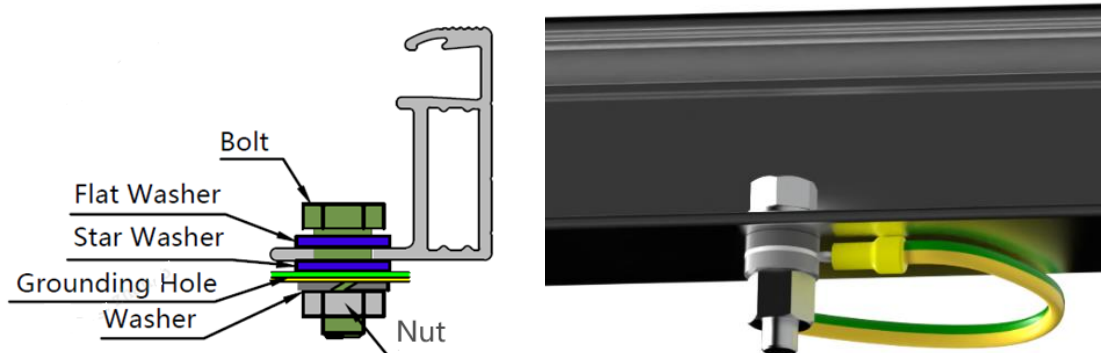

Figure 9. Grounding hole with bolts
- There are grounding holes with a diameter of 4mm on the long side of the back frame of the module, by the edge part. The grounding hole on the frame is marked with typical grounding symbol (\perp) according to IEC 61730-1:2023 standard. These holes can only be used for grounding with bolts, so cannot be used for module installation. This method includes bolt, flat washer, star washer, washer and nut (see Figure 9) . The bolts should be tightened when grounding is installed. The frame of the module must not be punched with additional holes and no damage should be done to the module frame or the grounding wire.